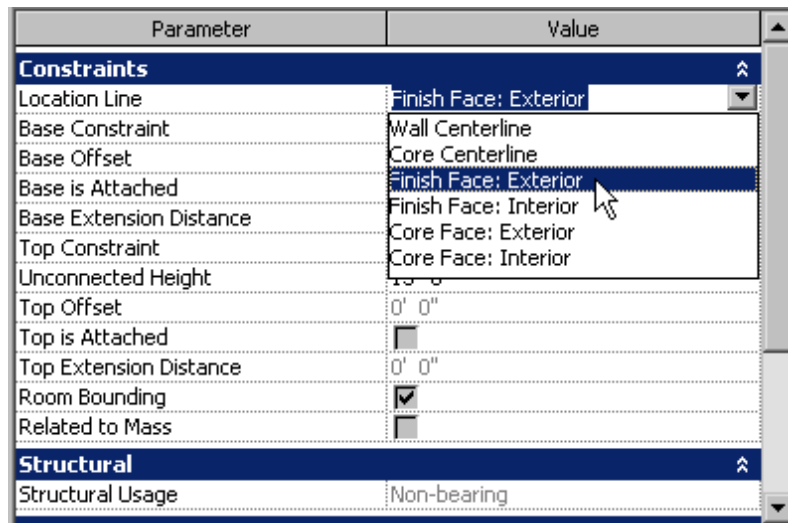

Figure 2-34 Setting the location line parameter in the *Instance Properties* table of the *Element Properties* dialog box
- e. Change the **Location Line** parameter to **Finish Face: Exterior**, refer to Figure 2-34.
2. Click in the **Value** column for the **Location Line** parameter and choose the **Finished Face: Exterior** option, as shown in Figure 2-34. Choose the **OK** button to close the dialog box and return to the interface screen.